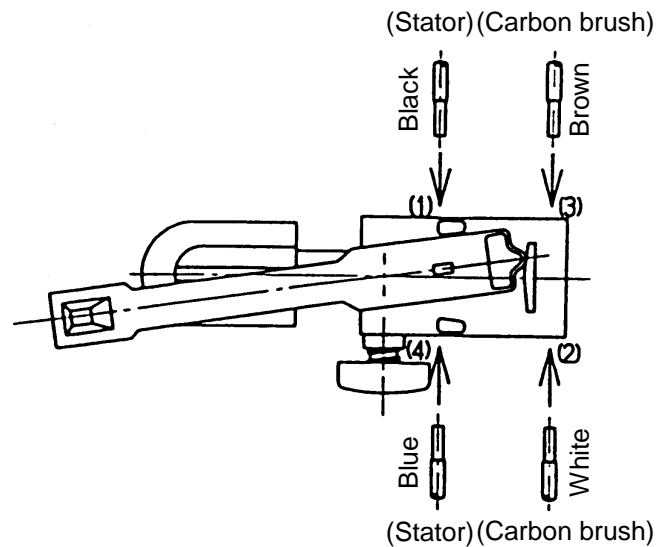

Fig. 18 Wiring of reverting switch (D 13VB2)
(1) Wiring of reversing switch (D 13VB2)
Insert the lead wire (black) coming from the stator into the terminal (1) of the reversing switch, and the lead wire (white) into the terminal (2) as shown in Fig. 18. Insert the lead wire (brown) coming from the carbon brush into the terminal (3) and the lead wire (blue) into the terminal (4). After insertion, pull each lead wire slightly to check the lead wires do not come off.